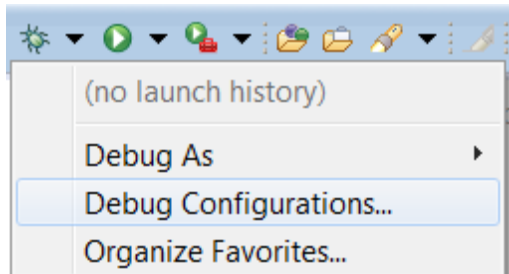

Figure 2.18 Debug options
1. Click the drop-down menu for the debug icon (Figure 2.18).